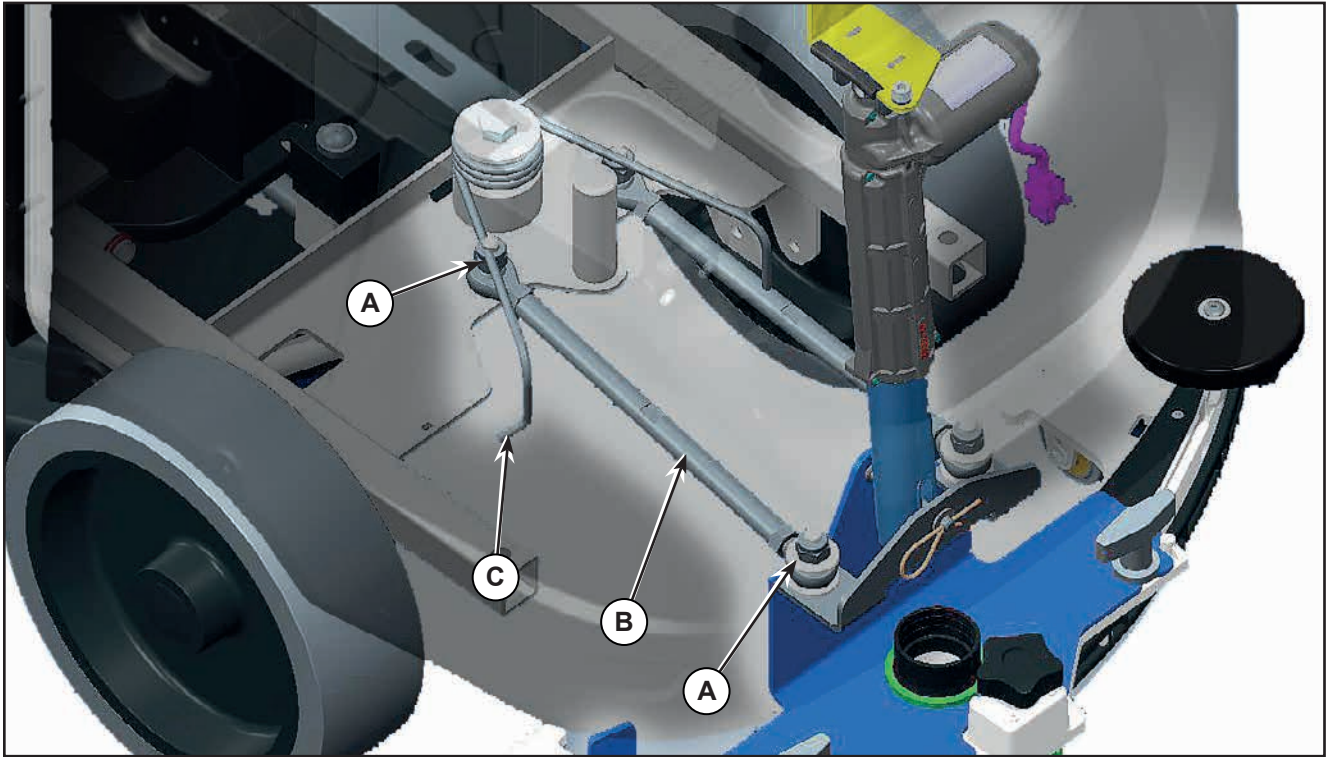

Figure 6:
4. Unscrew the nuts (A, Figure 6), retrieve the washers and spacers.
5. Carefully disassemble the tie rod (B) from the studs, by paying attention to the squeegee reset spring (C).